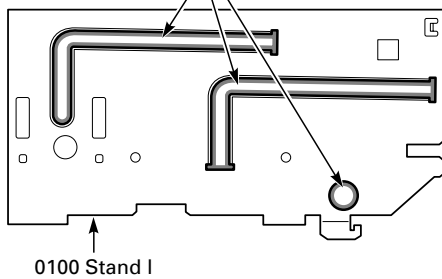

Fig. 8.5
- Follow the instructions given in Fig. 8.5 – Fig. 8.10!